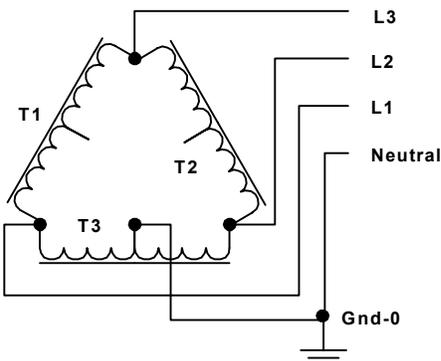
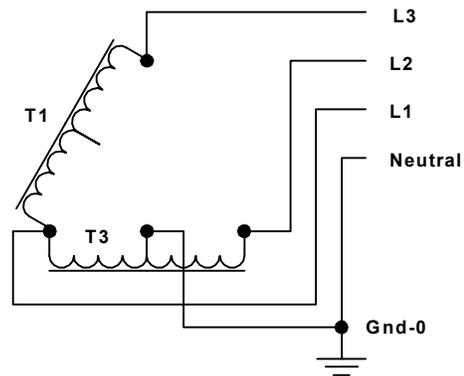

Figure 3
Figure 4
Another popular supply topology is illustrated in Figure 3. In this system, the utility's supply transformers have their secondary sides connected in a "delta" configuration, which constitutes a 3-phase voltage system. The three lines L1, L2, and L3 constitute a 3-wire 3-phase 240-volt system. Unlike the 4-wire wye 3-phase system, which has a neutral, a 3-wire 3-phase delta voltage system has no neutral. To accommodate the customer's additional need for single phase 120 volts, one transformer's 240-volt
secondary is center tapped, which provides two 120-volt supplies with the single phase neutral grounded at Gnd-0. The topology shown in Figure 3 provides three lines; L1, L2, and L3, which supply 3-phase 240 volts. Single phase 240 volts (without a neutral) is available between line pairs; (L1-L2), (L2-L3), and (L3-L1). The T3 transformer's 240-volt secondary is center-tapped, providing the added feature of two single-phase 120 voltages; L2-neutral and L1-neutral. **Note:** In this system, 208 volts is developed between neutral and L3. This is often referred to as the "wild-leg voltage" and is not used.
Figure 4 shows an open delta topology used to supply the same system of voltages as the delta system in Figure 3. The open delta topology functions in an identical manner as the "full" delta described above. However, implementation of the open delta requires only two transformers. Utility companies often use this scheme to economically develop 3-phase systems.
- Both delta-configured supplies shown in Figures 3 Figure 4 have two 120-volt sources that share a common neutral. Consequently, single-phase 120-volt loads on L1-neutral and L2-neutral develop current flowing in the neutral line toward the supply ground, Gnd-0. Again, this is true because these 120-volt loads on L1-neutral and L2-neutral can never be truly identical.